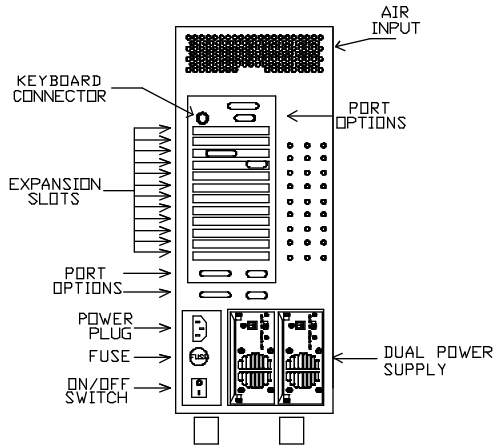

Figure 2-2: Rear View of the MaxPro
- 1) Locate the video adapter's connector on the rearpanel. Refer to figure 2-2.
The MaxPro can be configured with optional serial port and parallel port connectors accessible on the rear of the case either through the motherboard, or the single board computer, whichever is installed (figure 2-2). For software installation, refer to documentation provided with your mouse.